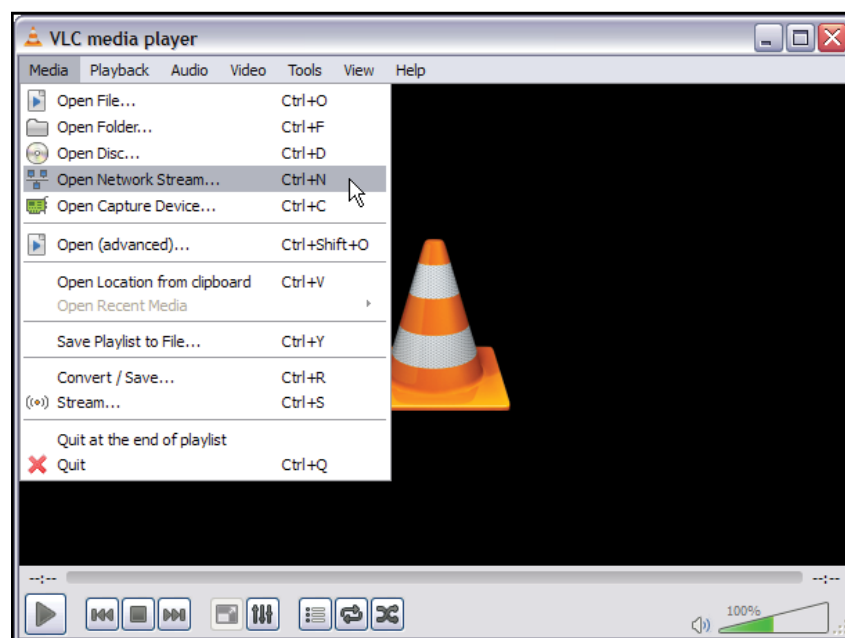

Figure 101. VLC Media Player — Open a Network Stream
4. The media player opens. Select **Media > Open Network Stream** (see figure 101).